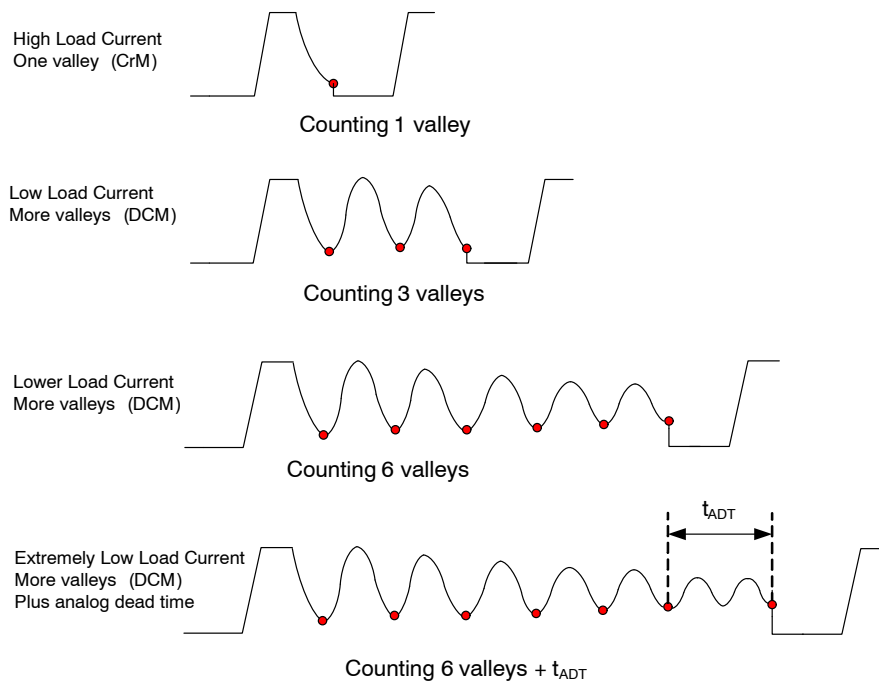
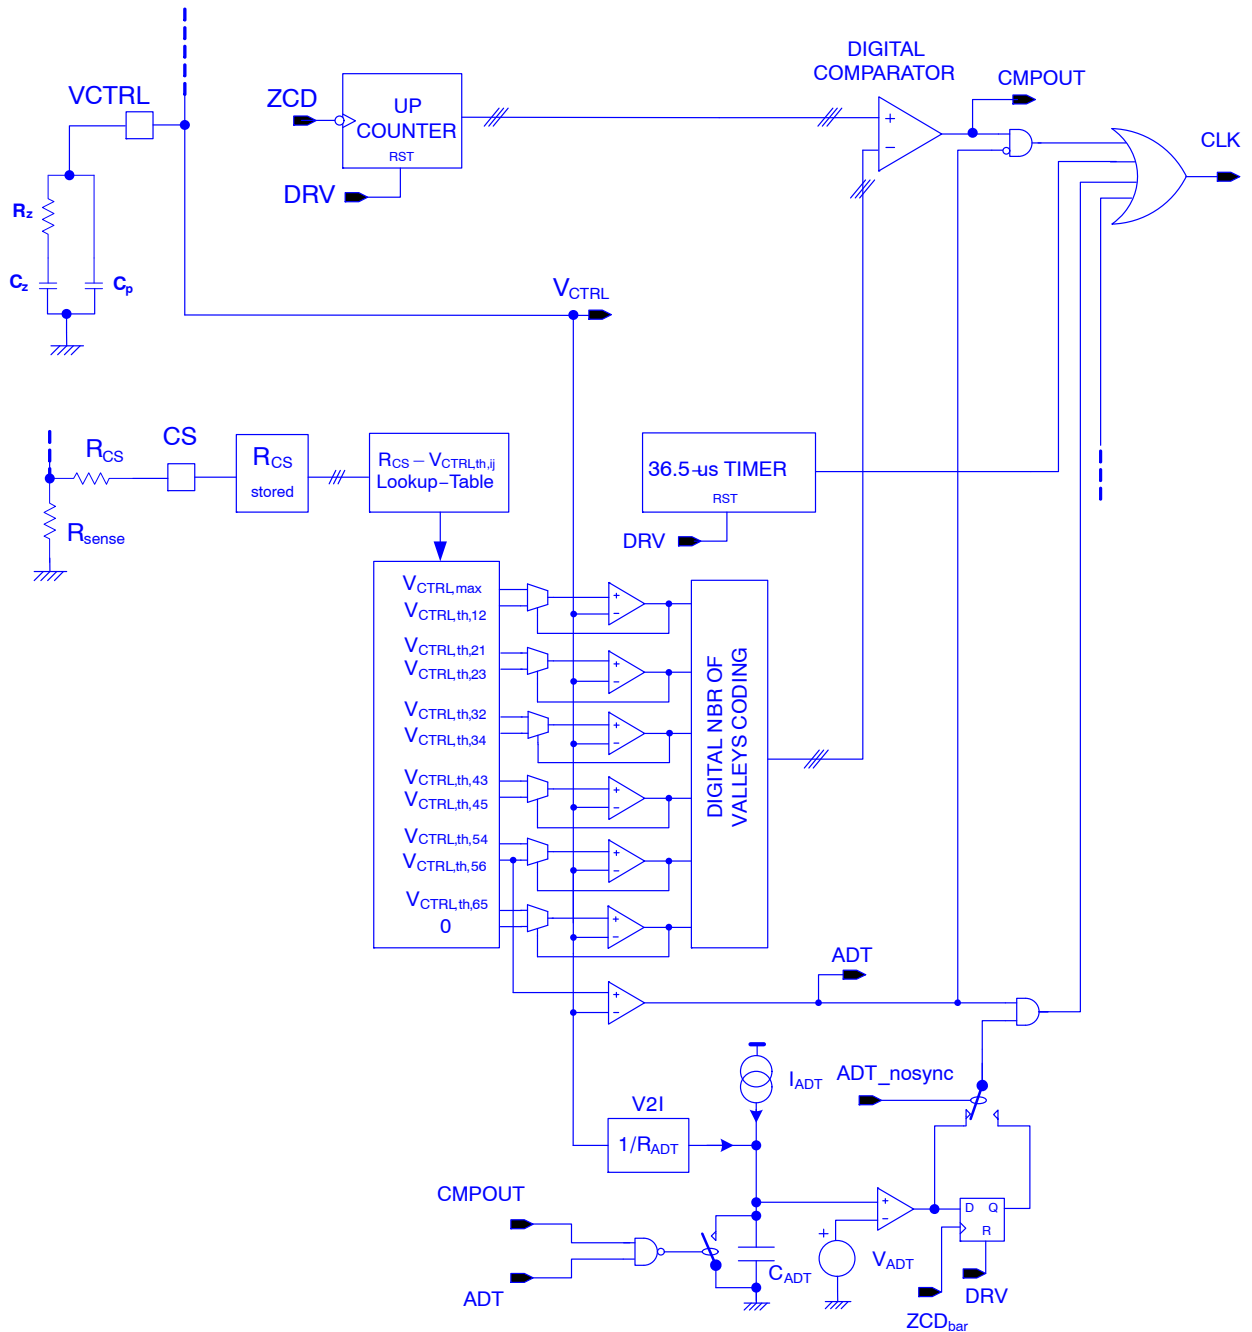
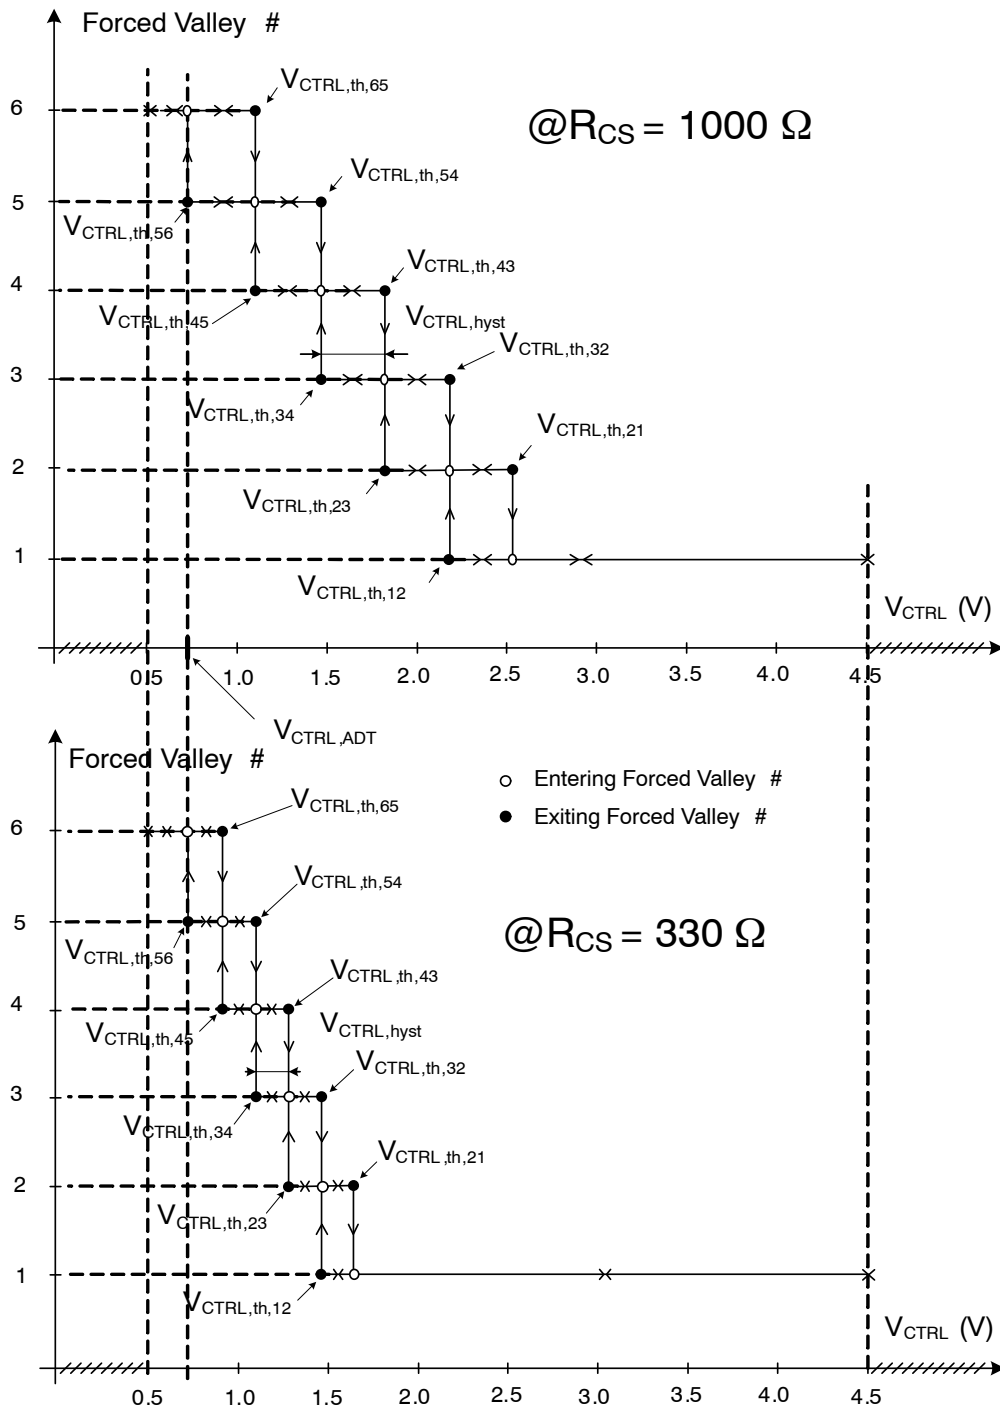

Figure 3. Valley Switching Operation in CrM and DCM Modes Seen Through Power MOSFET Drain Voltage
Figure 4. Valley Count Turn-on Block Diagram
Figure 7. Forced Valley Number versus VCTRL Pin Voltage For a Two Different RCS Values of the Mandatory List {150 Ω, 330 Ω, 620 Ω, 1000 Ω}
- **Valley Count Frequency Fold-back:** NCL2801 is designed to drive PFC boost stages in so-called Valley Count Frequency Fold-back (*VCF*). In high load current condition, the circuit classically operates in *Critical conduction Mode (CrM)* also called 1st valley switching. When output power is decreasing, if a threshold is reached (determined by sensing the CS pin impedance during initial power up), a dead time based on a number of valleys is added. The number of valleys will increase, each time a dead time window (based on V_{CTRL} value) is entered. By construction, this counting process will avoid valley hopping during the mains voltage period. If the output power continues decreasing and the 6th valley is reached, extra “analog” dead time will be added based on a voltage ramp (see Figure 4). On-time will be synchronized with a valley. A timer will clamp the total switching period to not exceed 36.5 μ s (the switching frequency will never go under about 27.4 kHz). The switching frequency depends on output voltage, input voltage, and boost inductor value, and increases as the load power increases. Hysteresis is added to the V_{CTRL} control windows to avoid valley hopping during steady state conditions. *VCF* maximizes the efficiency at both nominal and light load. Similarly to *FCCrM* controllers, an internal circuitry allows near-unity power factor even when the switching frequency is reduced.
valley number count up to 6 valleys (the number of valleys between end of inductor demagnetization and power MOSFET turn-on determines the dead time value). After counting is done, the power MOSFET turns on at drain voltage valley. When 6th valley is reached and VCTRL voltage stays under 0.77 V, an extra “analog” dead time is added based on a voltage ramp (see Figure 4). The added analog dead time tADT is based on 0.77 V minus VCTRL value. tADT will be equal to zero when $(0.5\text{ V}-V_{CTRL}) = 0\text{ V}$ and will increase monotonically versus VCTRL decreases while VCTRL is under the 0.77 V threshold corresponding to $V_{CTRL,th,56}$. The analog dead time added tADT will equal typically 20 μs when VCTRL=0.5 V.
As illustrated in Figure 3, under high load conditions, the boost stage is operating in CrM (only one valley is counted before turning on the power MOSFET). The second example shows a DCM state of operation where 3 valleys have been counted before turning on the power MOSFET. The third example shows a DCM state with lower output power than the previous one where 5 valleys have been counted before turning on the power MOSFET. The fourth example shows how additional dead time is added after 6th valley.
means of counting the falling edges of the ZCD signal until the counter reaches the number of valleys set by the window in which the VCTRL pin voltage is (see Figure 4). The 3-bit counter allows to work “Valley synchronized” up to 6 valleys. When the 6th valley is reached, and VCTRL is lower than 0.770 V ($V_{CTRL,th,56} = 0.770$ V whatever frequency foldback threshold setting), an additional analog dead time will be added to the 6 valleys dead time and there will be valley synchronization turn-on of the power MOSFET ($ADT_nosync = 0$ by default) based on falling edge of ZCD signal. The total dead-time (number of valleys and extra analog dead-time) will not exceed 36.5 μ s. As a result of this timer the minimum switching frequency will not go under 27.4 kHz.
There will be a different DCM to CrM threshold than CrM to DCM making an hysteresis to avoid valley hopping (see Table 7 and Figure 4).
As shown in Figure 7, the forced number of valleys, shown in the Y-axis, depends on 5 VCTRL pin voltage windows,
results from output power decrease. We can also mention looking at Figure 7 and the specified frequency foldback thresholds of Table 7 that $V_{CTRL,th,56}$ which is the V_{CTRL} threshold at which we force counting 6 valleys, has always the same value. This threshold is also called $V_{CTRL,ADT}$ because when V_{CTRL} pin voltage falls under this threshold, an analog dead-time starts to be added to the dead-time determined by counting 6 valleys. The lower V_{CTRL} pin voltage goes under $V_{CTRL,ADT}$ threshold, the more analog dead time is added. An example on how the analog dead time can be added is shown in the circuit of Figure 4 and the correspond power MOSFET drain voltage is shown in Figure 3.